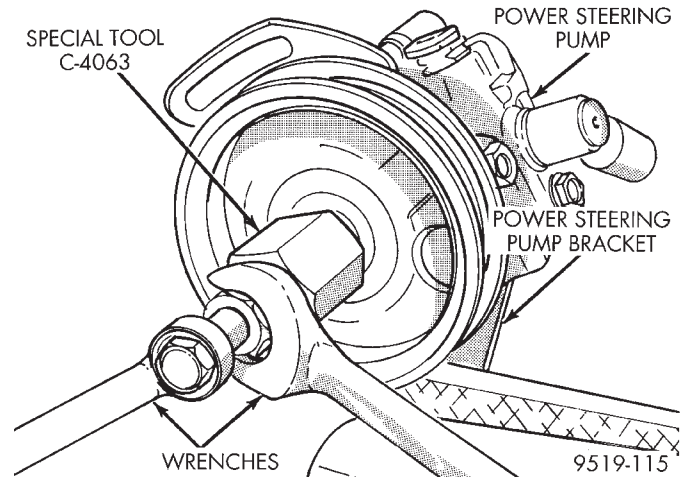

Fig. 56 Installing Pulley On Shaft Of Power Steering Pump
- (4) Mount Installer, Special Tool C-4063 in internal threads of the power steering pump shaft and against Special Tool 6936 on power steering pump pulley (Fig. 56).
- (5) Ensuring that special tool and pulley remain aligned with pump shaft, force pulley onto power steering pump shaft until Special Tool 6936 is against the end of the power steering pump shaft. **When Special Tool 6936 is against the shaft of the power steering pump Special Tool C-4063 will no longer be able to be turned.**
- (6) Remove Installer, Special Tool C-4063 from power steering pump.